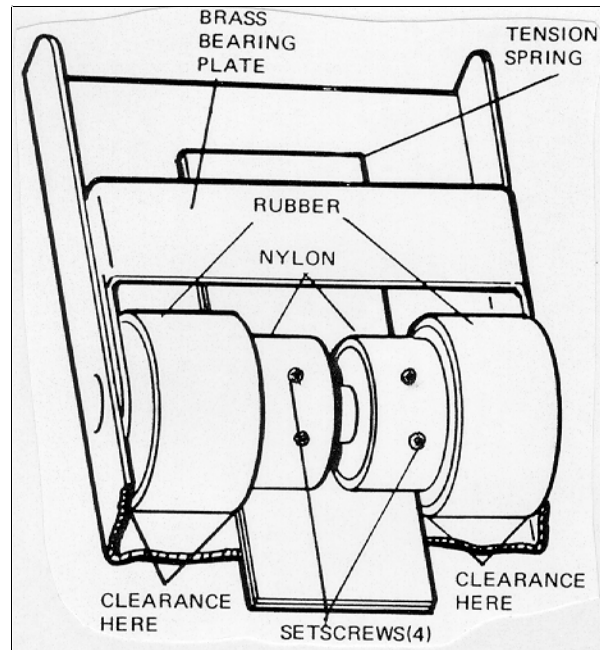

Figure 5-7. Correct Position of Drive Rollers
1) Lightly lubricate the roller tension spring on the arm grip mounting frame with Dow-Corning D-55 Lubricant (figure 5-7).
- 2) Lift the brass bearing plate and insert the rollers. Lower the bearing plate and rollers, making sure that only the nylon portion of the rollers contact the tension spring. Rotate the rollers so the setscrews are facing up (figure 5-7).
- 4) Adjust the rollers so that only the nylon portion touches the tension spring and the rubber drive rollers do not drag on the brass bearing plate (figure 5-7). Tighten the setscrews.